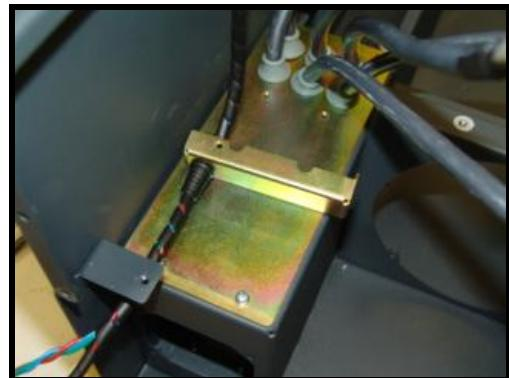

Figure 7.4.23
- 7) Remove the 2 screws (**M4x8 DIN-7895H**) which hold the fixing bar for the fan cables to the chassis (see figure 7.4.23).
- 3) Hold the fixing bar of the fan cables with their 2 screws (**M4x8 DIN-7895H**) (see figure 7.4.23).